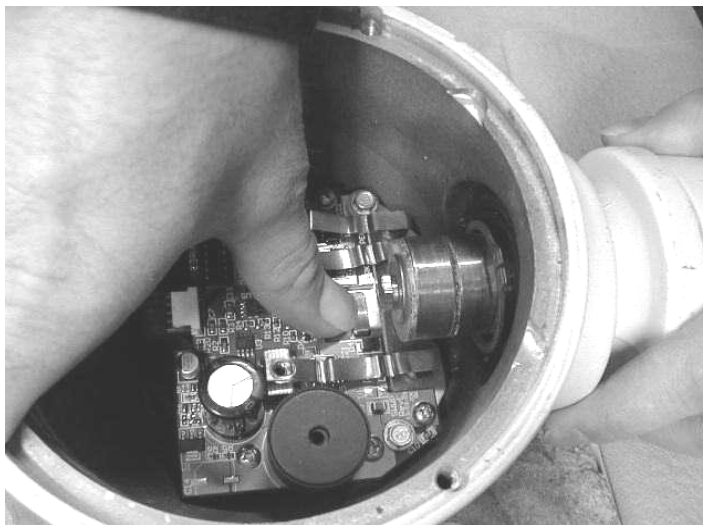

Fig. 11
38. If you used method #1 to replace the circuit, partially insert the yaw shaft assembly into the bearing hole. **Place the external snap ring just over the slip rings of the yaw shaft prior to setting the brushes.** While holding each brush in its respective guide, insert the yaw shaft into the hole the rest of the way. See Fig. 11. Secure one brush at a time as the yaw shaft is inserted. A rubber mallet may be necessary to tap the yaw shaft in place once all of the brushes are completely seated. Repeat the same operation with each brush until the yaw shaft is fully seated. Use caution with the brushes, they are brittle and may break with too much force applied. Ensure that the gaps between the slip rings do not “grab” the brushes while the yaw is being installed.